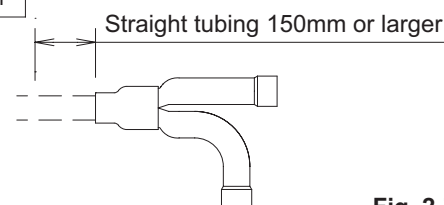

Fig. 2-7-1
- For branching tubes, install 150mm or larger (including reducer) straight tubing up to the point where the tube branches (or after the point where the tubes join together). (Fig. 2-7-1)